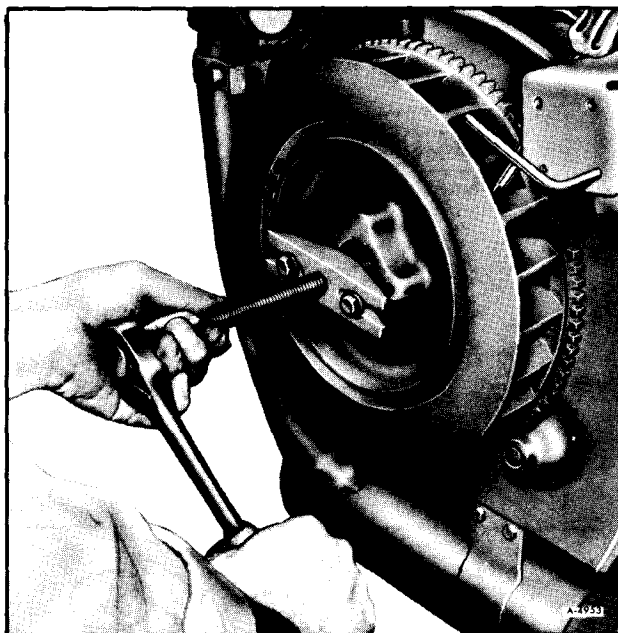

Figure 50—Pulling Flywheel with Straight Bar Puller
7. Pull the flywheel with a straight bar puller utilizing the centering hole in the center bolt (See figure 50).